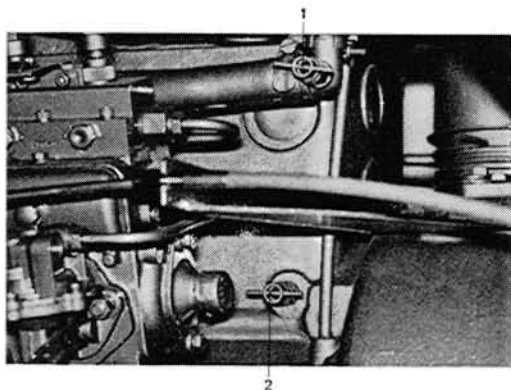

Fig. 11 Drain cocks for cooling water
- 2 Open the drain cock on the cylinder block and exhaust pipe, see Fig. 11.